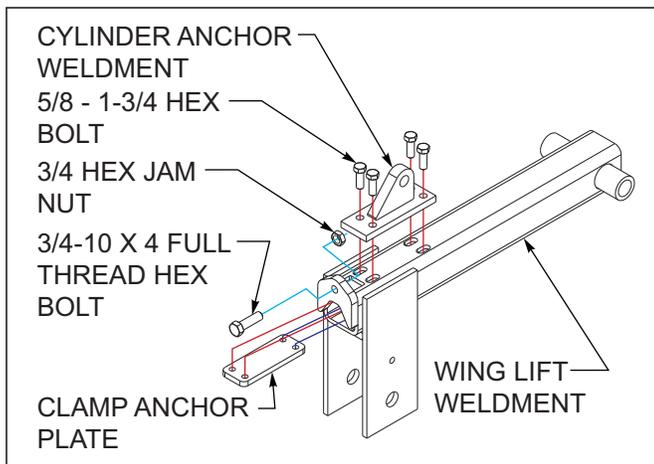

Figure 4-7: Wing Lift Adjustment
- e. Loosen the four 5/8 hex head cap screws that hold on the adjustable cylinder anchor weldment **See Figures 4-7**. Loosen the hex jam nut on the end of the gauge wheel arm weldment and adjust the 3/4 adjusting hex head cap screw so the tires on the mainframe and the wings are just touching the ground or are the same distance off the ground.
- g. The mainframe should now be level with the wings. If not repeat **steps d** thru **f**. If they are level, lower the machine to the ground, retighten and torque the (4) 5/8-11 x 1-3/4 hex head cap screws on each wing lift and retighten the 3/4-10 hex jam nut on the adjusting screw.